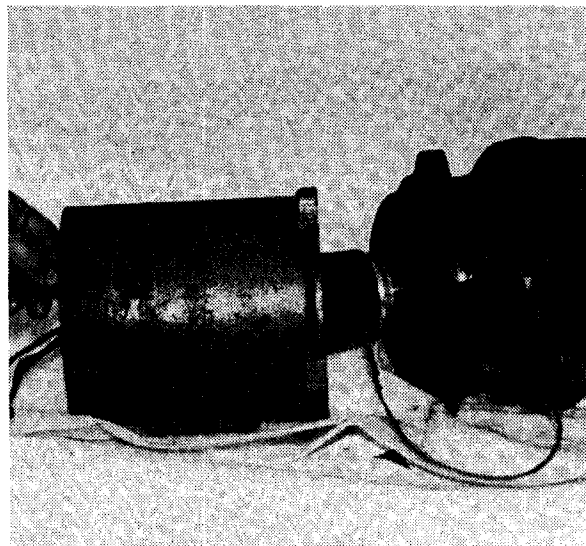

FIG. 43
16. Using fine picture hanging wire pull seal failure wire up through stator hole before replacing stator. See Figure 43. The stator is pressed into housing at the factory and is shipped as a unit. Do not try to replace stator in housing in the field, they must be replaced as a unit.